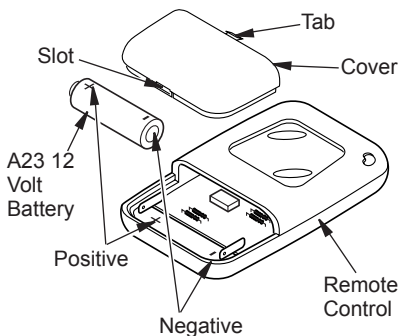

Figure 35 - Installing Battery
1. Locate slot at bottom of remote control (see Figure 35). Firmly insert tool such as a small screwdriver, butter knife or dime into the slot and lift up to remove cover.